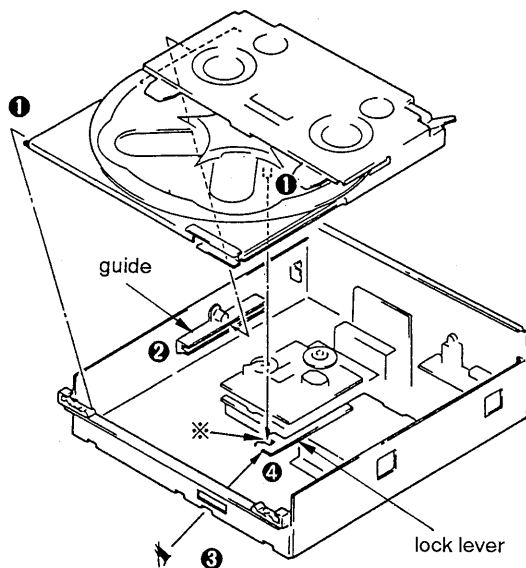

Fig. 3
3. Mesh the left slide part of the station base (figure 3- ①) with the guide (figure 3- ②).
4. Put the boss of the station base into the ditch of “※” of the figure 3- ④ (lock lever), seeing through from the squared hole on the chassis ass'y on figure 3- ③.